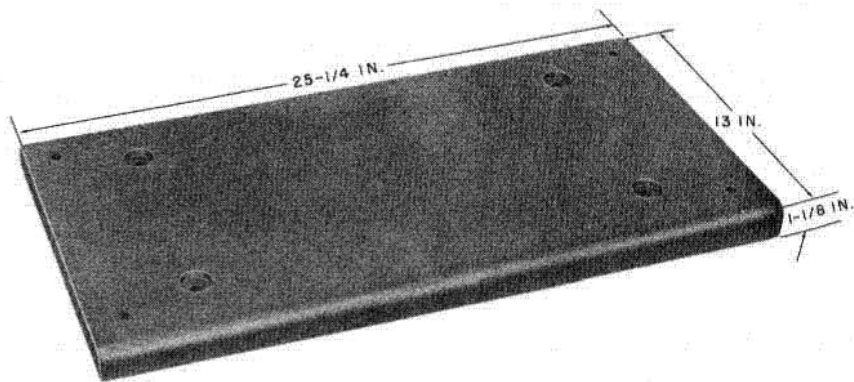

Fig. 27—Insulating Base per ED-91180-70
**5.07** The insulating base per ED-91180-70\* (Fig. 27) is a wooden base for 11- and 18-plate cabinets.